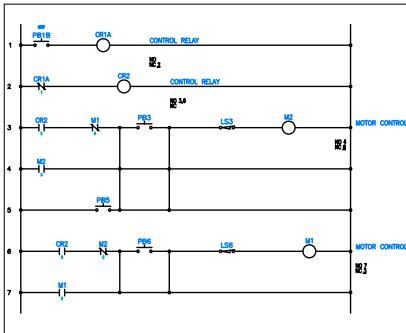

Figure 6-52 Wires inserted in the ladder
- Press ENTER to exit the command. Figure 6-52 shows the wires inserted in the drawing.